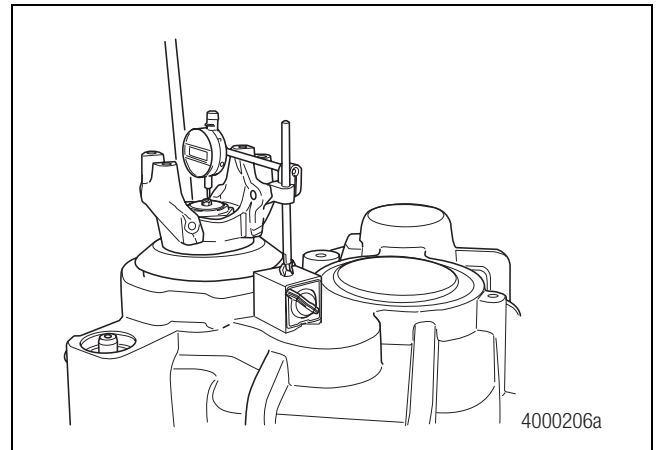

Figure 6.25
3. Use a suitable dial indicator setup and pry UP on the yoke to determine bearing end play. End play should be 0.001-0.003-inch (0.025-0.076 mm). To obtain a consistent reading, perform this operation two or three times. Record the reading for this shaft. Figure 6.25.